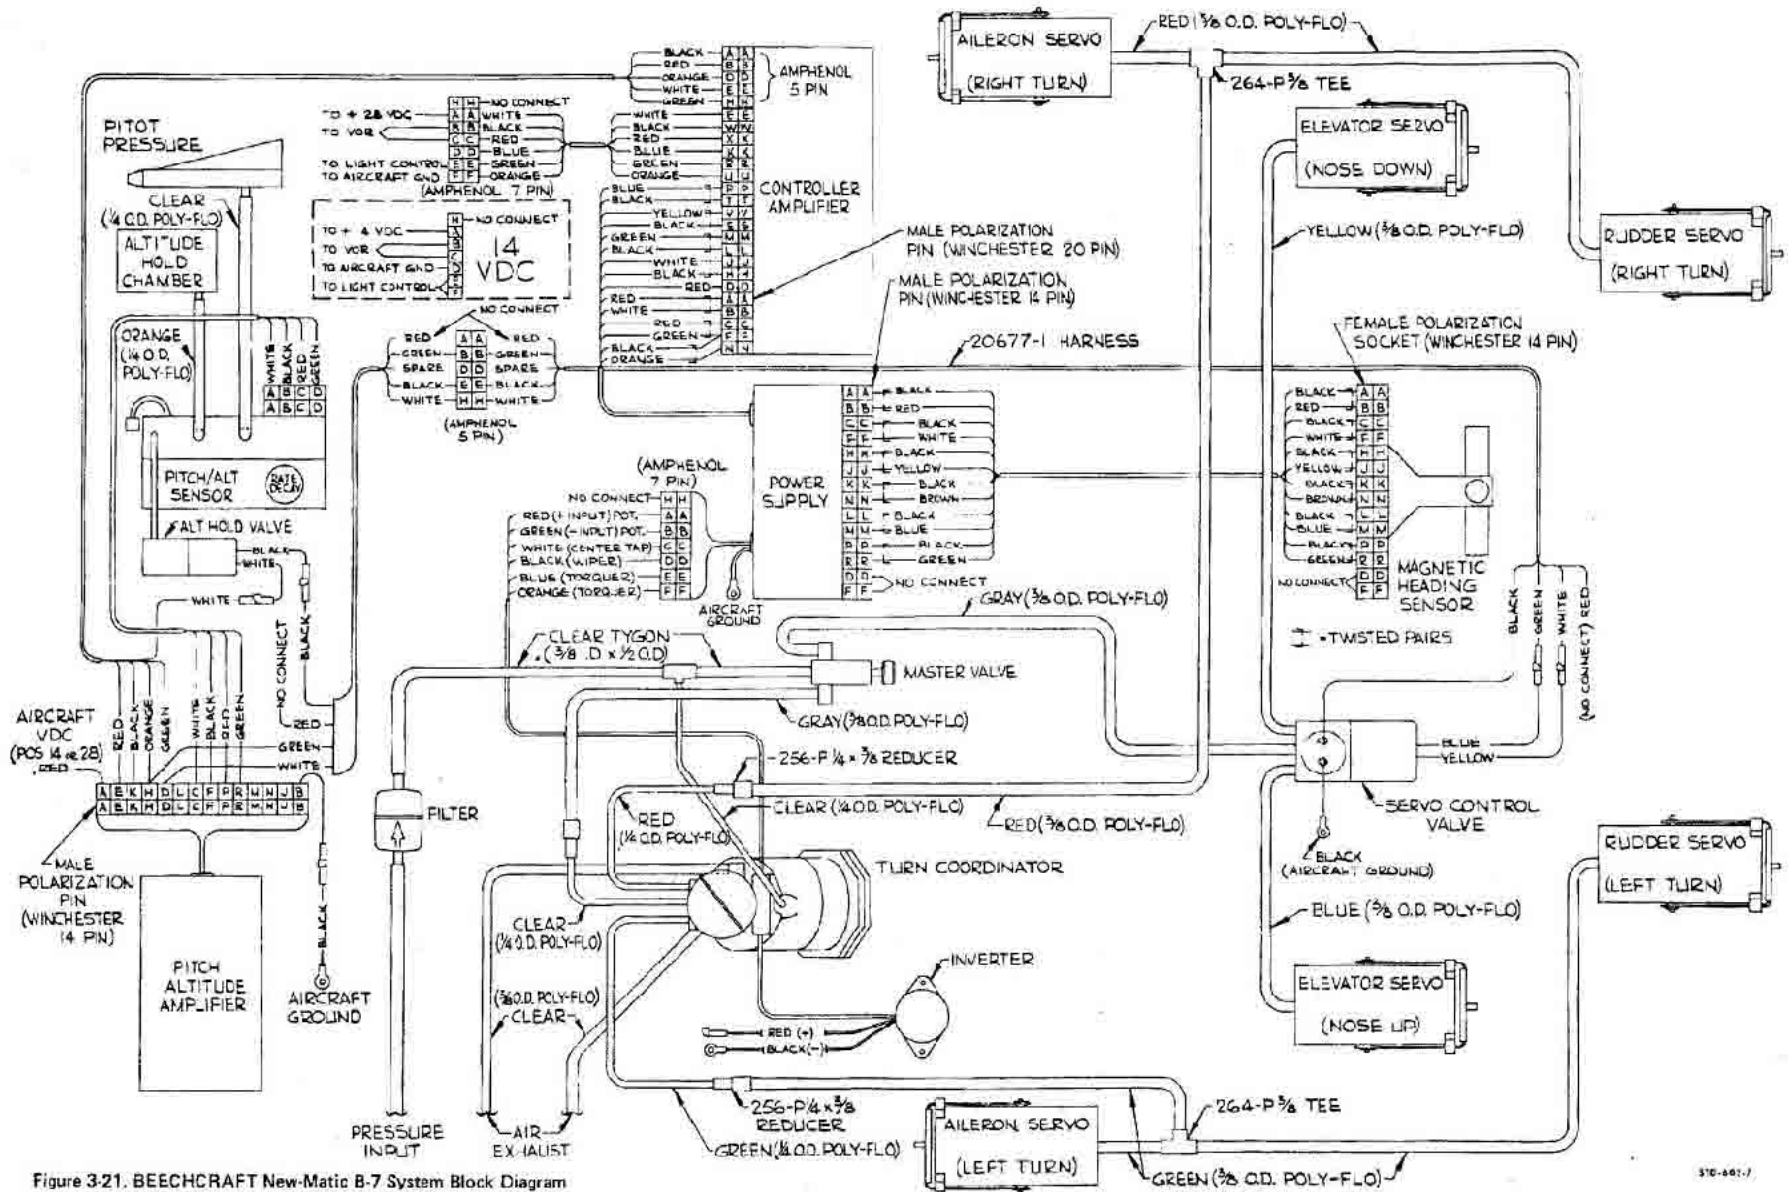

Figure 3-21. BEECHCRAFT New-Matic B-7 System Block Diagram
b. Turn coordinator not plumbed properly.	b. Plumb as noted on Figure 3-21.
c. Defective altitude switch on controller amplifier.	c. Check continuity (see Figure 3-21).